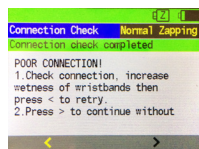

Fig. 21
- **Poor connection:** if the connection is not good the device will show a POOR CONNECTION Panel (Fig. 21). You can select  to retry the connection check after checking the electrodes or select  to continue without connection check (Note: there is no connection control for the Zappicator Program).
- **Poor connection:** if the connection is not good, the device will show a POOR CONNECTION Panel (Fig. 21). You can select  to retry the connection check after checking the electrodes or select  to continue without connection check (Note: there is no connection control for the Zappicator Program). When the program is completed, select  to return to the Main Menu (Fig. 11).